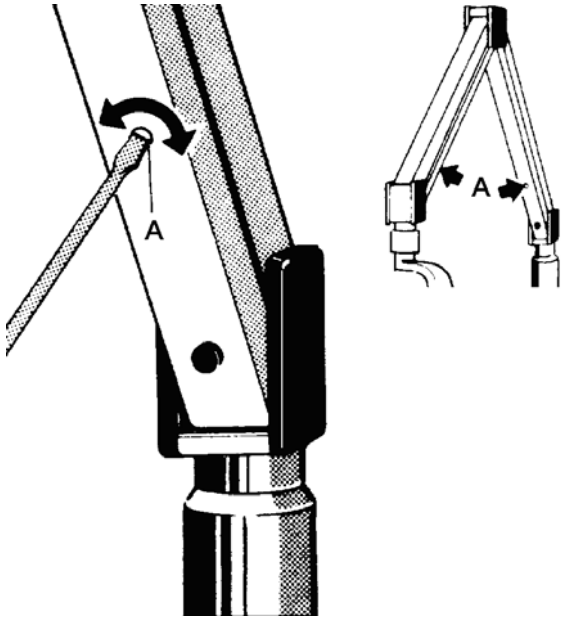

Figure 1-3. Rotation adjustment, step 1.
(2) Inspect the seat assembly to ensure the following conditions exist.
(3) Inspect the scissors arm assembly spring adjustment. Position the tube head in a 45° angle to the vertical scissors arm. If the scissors arm does not return by itself to 45° , the friction pad requires adjustment. See figure 1-3. Use the following procedures to adjust the friction pad.
(e) Tighten screw A by turning it (1 1/2 turns maximum). See figure 1-3.